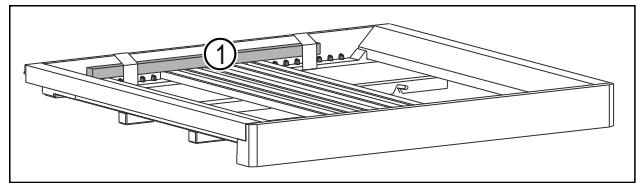

Fig. 5 *
- ▶ Remove the wooden stick Fig. 5 [1].*